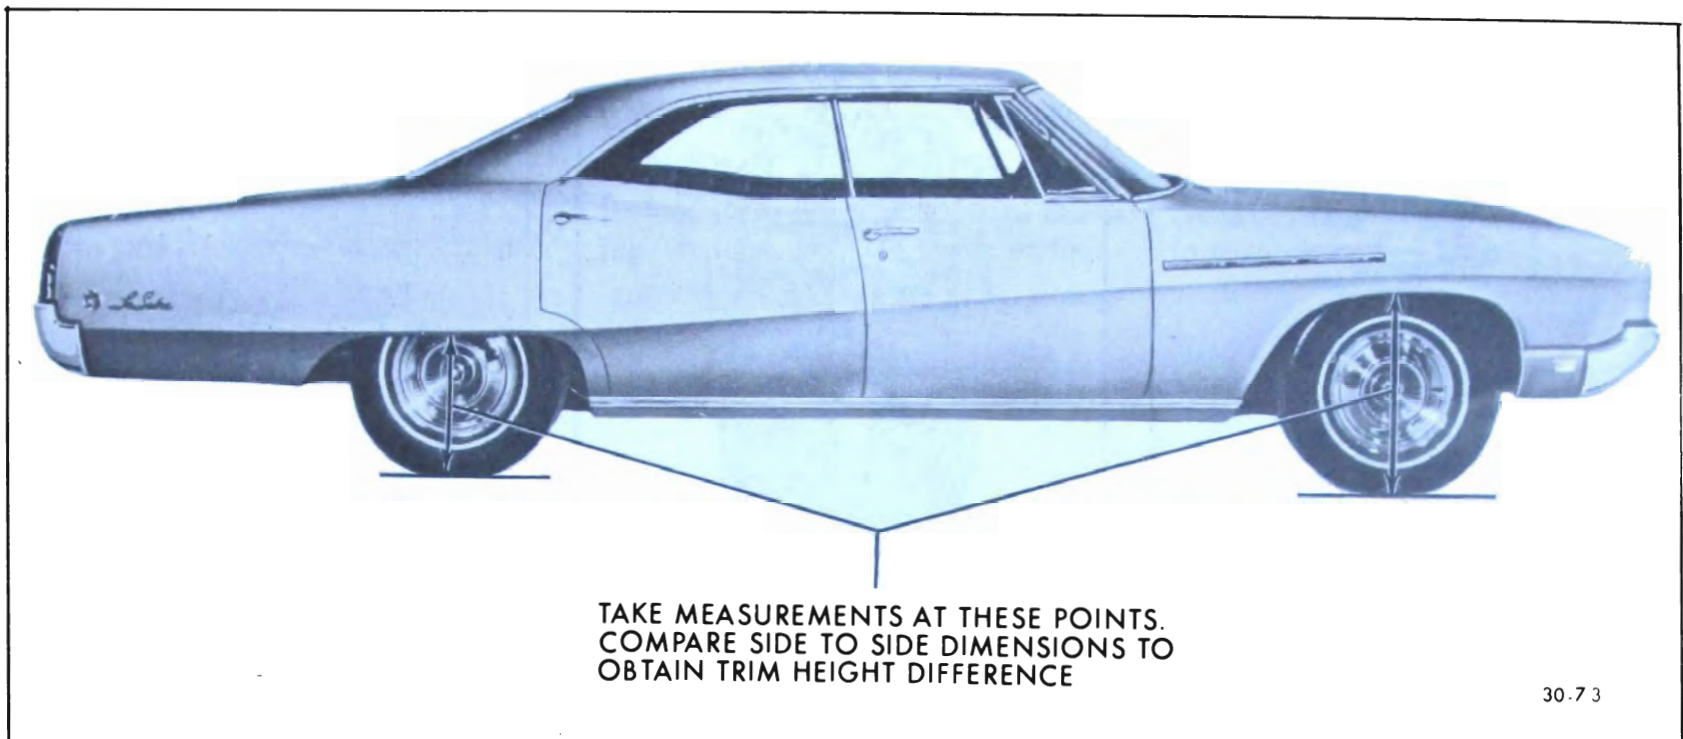

Figure 30-43—Trim Height Side-to-Side Checking Locations
4. When checking side to side differences in trim height at rear, take measurements at rear wheel house openings as shown in Figure 30-43. If shimming is required, see subparagraph c following.